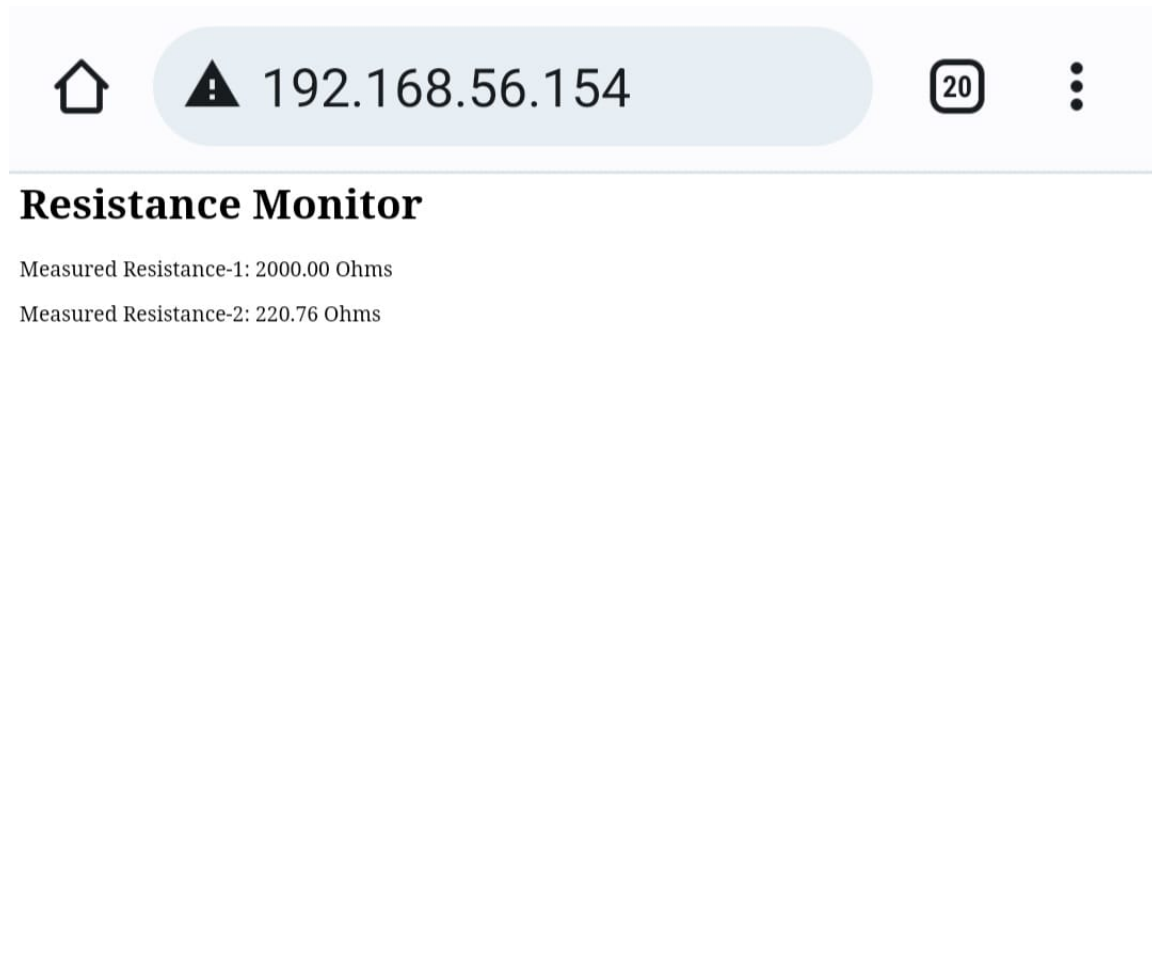

Figure 5.1: Website
- 1.3.8. In the website loaded by the IP address of vaman-ESP the two unknown resistances are displayed as shown in Fig. 5.1